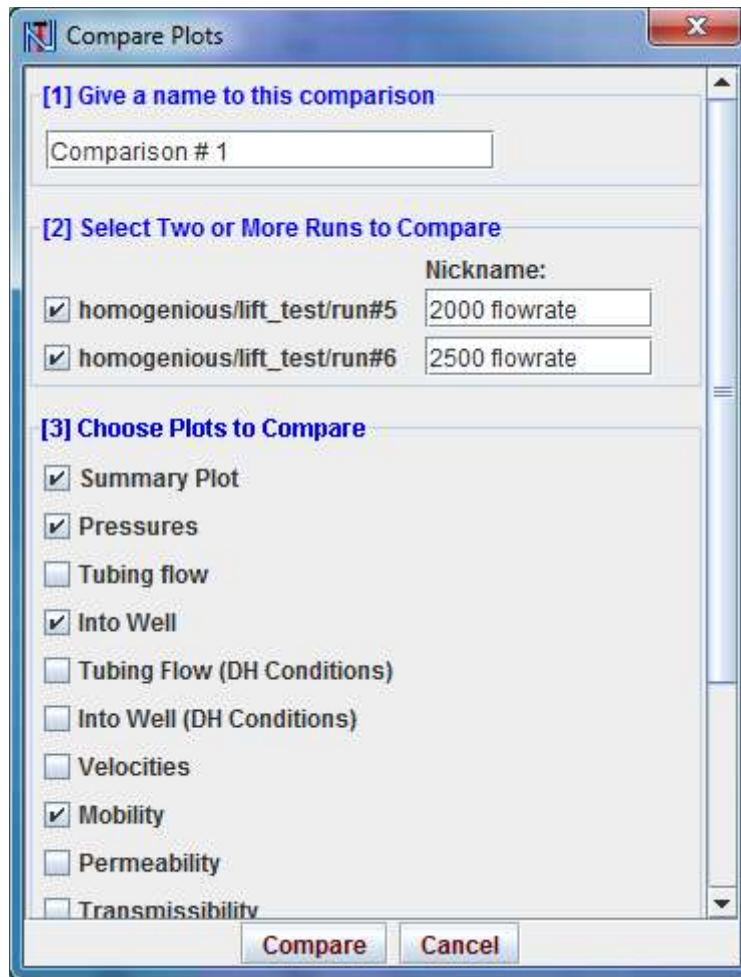

Figure 39. Compare plots dialogue.
This button activates “Compare plots dialogue” shown on **Figure 39** below.
3. Choose data to compare. Only plots present in all runs will show up. (f.ex. if there were no “Pressures” plot in run#6 on **Figure 39** checkbox wouldn't show up)